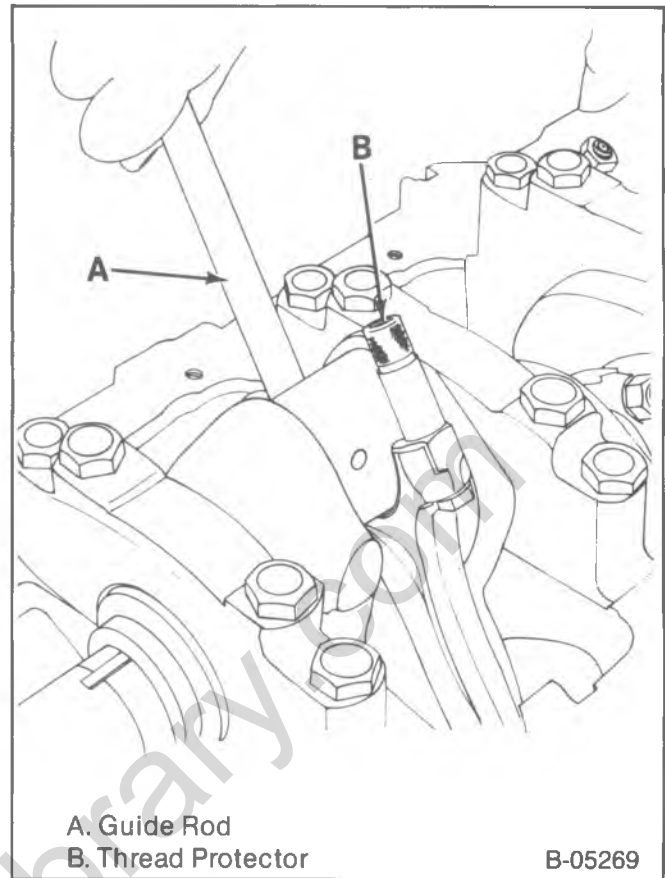

Figure 29—Replacing the Connecting Rod and Piston (Typical)
Remove or Disconnect (Figure 29)
- Attach J-5239 to the connecting rod bolts (figure 29).
Install or Connect (Figures 29 through 32)
- Place the piston in its matching bore. The connecting rod bearing tang slots must be on the side opposite the camshaft. Using light blows with a hammer handle, tap the piston down into its bore (figure 31). At the same time, from beneath the vehicle guide the connecting rod to the crankpin with J-5239 (figure 29). Hold the ring compressor against the block until all rings have entered the cylinder bore.